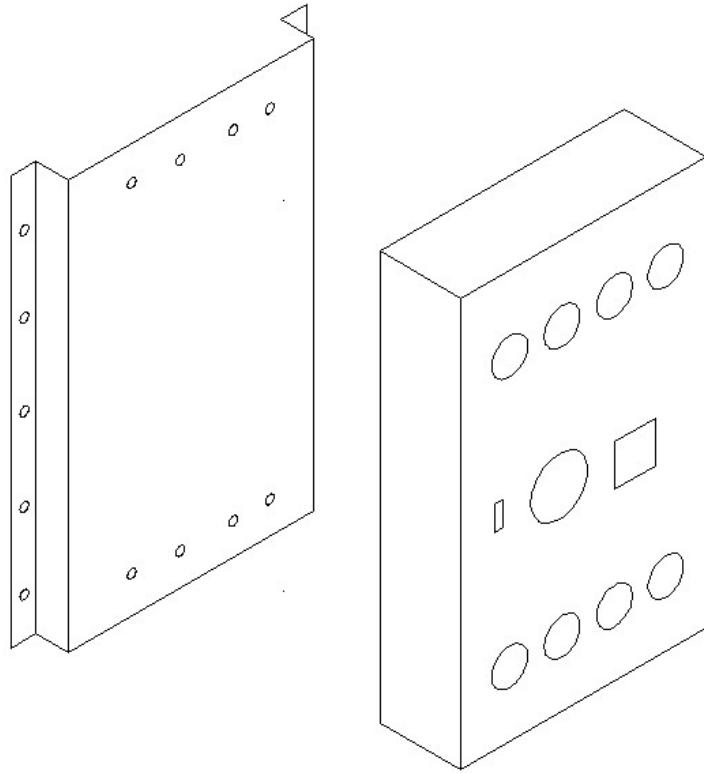

Fig. 3.29
1) Install the control box into to wall panel near the generator shown in Fig.3.29, and install the installation panel onto the wall with nail, then install the control box on to the panel.
The main component have been connected before delivery, the connection to the control box. you should do as follow in Fig.3.29: